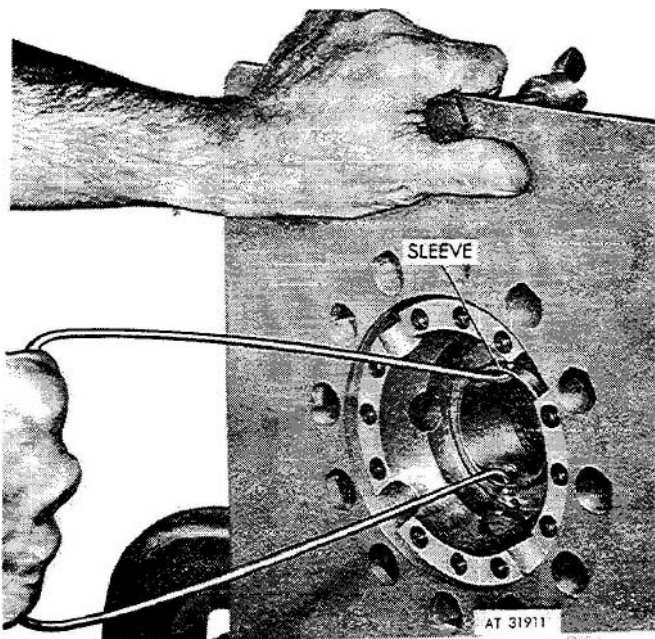

Figure 3-115. Removing sleeve (11660113) using puller in holes of sleeve.
(18) In the following sequence, remove shoulder screw (8, fig 3-102), spherical washers (7), installation block (9), shaft (1), sleeve (5), and alignment arbor (4). When removing sleeve, install a suitable puller in the two  $\frac{1}{4}$  inch holes provided in the sleeve (fig 3-115). Remove spacer strip (11660104).